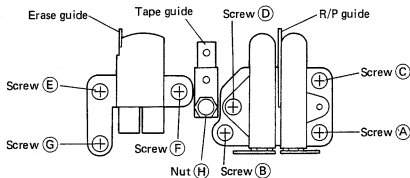

Fig. 4-2
**CAUTION 1:** Upon replacement of the record/repro head and/or the erase head, loosely tighten screws (A) - (G) (Fig. 4-2) then turn them one half back, before starting to perform the following steps. In addition, the procedures require the following materials:
- 注意. 1. 録・再ヘッド及び消去ヘッドを交換したときには図4-2のネジ(A)～(G)を軽く締め切って、その位置からそれぞれのネジを1.5回転緩めた状態で調整を始めること。又、この調整を行う為には次の治具が必要です。
7. Turn in and out the height adjustment screw C (Fig. 4-2) until jig B touches the tape guide lower flange.
13. Play the 315-Hz signal on the tape then the 6.3-kHz signal, to check that the outputs from channels 1 and 4 are in phase as seen on the scope. If necessary, adjust screw B (Fig. 4-2).